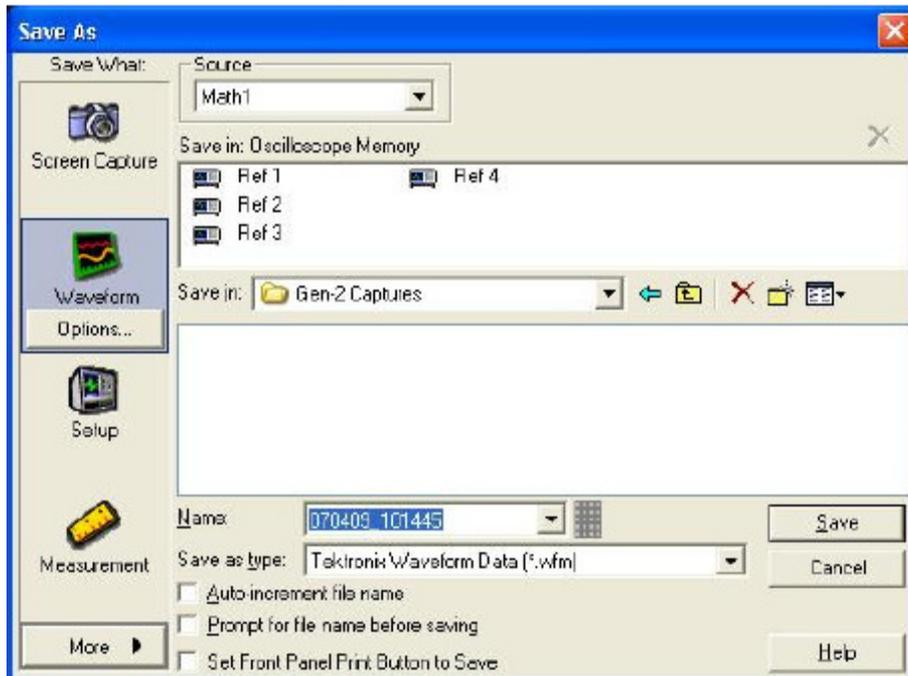
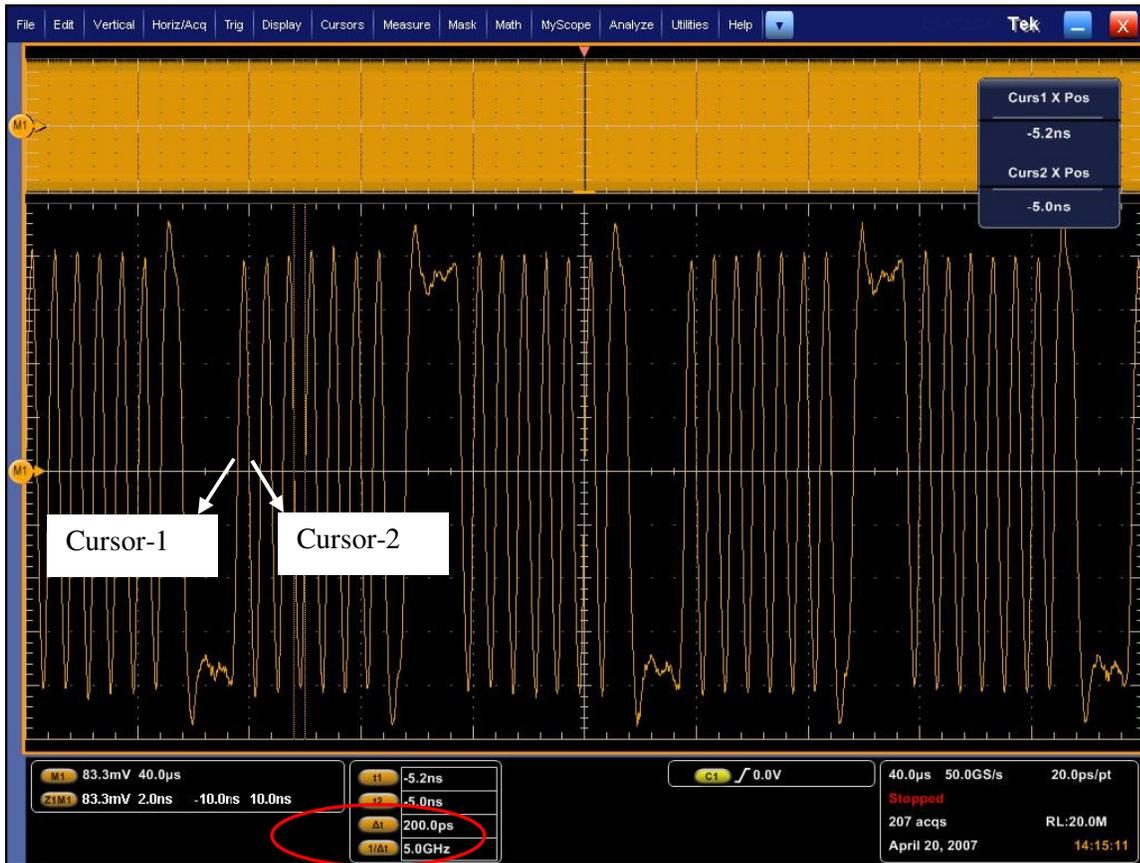

Figure 16. Saving Data waveform
Figure 17. CMM at 5GT/s (-3.5dB TX De-emphasis)
1. Click on the channel buttons Ch1 and Ch2 (Shown in Figure 16 and Figure 17). Turn off Ch1 and Ch2.
9. Make sure that the pattern on the scope is Compliance pattern as specified by PCIE Base Specification 3.0. By default the compliance pattern is sent at 2.5GT/s. Use the cursors button (Shown in Figure 16 and Figure 17) to place cursors on a pair of adjacent crossover locations that are closest together to make sure that the unit-interval (UI) is around 400ps (for 2.5 GT/s).
11. Click the Multiview Zoom button on scope front panel, use Multipurpose b knob (Refer Figure 16 and Figure 17) to increase the Zoom factor to a value where you can see the zoomed waveform clearly. Refer to Figure 21.
3. Use the cursors button (Shown in Figure 16 and Figure 17) to place cursors on a pair of adjacent crossover locations that are closest together to make sure that the unit-interval (UI) is around 200ps (for 5 GT/s).
12. Use the cursors button (Shown in Figure 16 and Figure 17) to place cursors on a pair of adjacent crossover locations that are closest together to make sure that the unit-interval (UI) is around 200ps (for 5 GT/s).